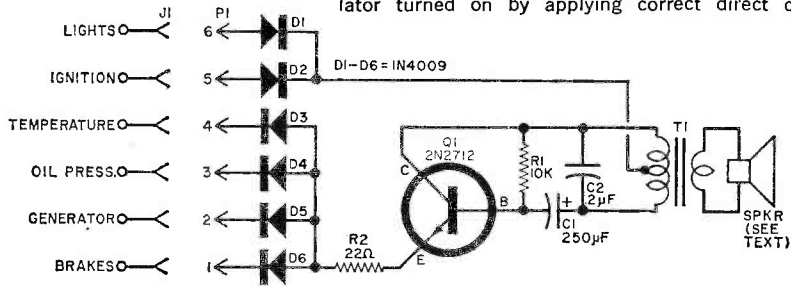

Fig. 1. Basic Omni-Alarm circuit is a "squegging" oscillator turned on by applying correct direct current.
**Construction.** The circuitry for the "Omni-Alarm" (Fig. 1) can be assembled
To test the circuit, apply the positive terminal of a 12-volt battery to pin 5 or 6 (see Fig. 1) and the negative terminal to each of pins 1 through 4. Do not perform this test with the speaker opening